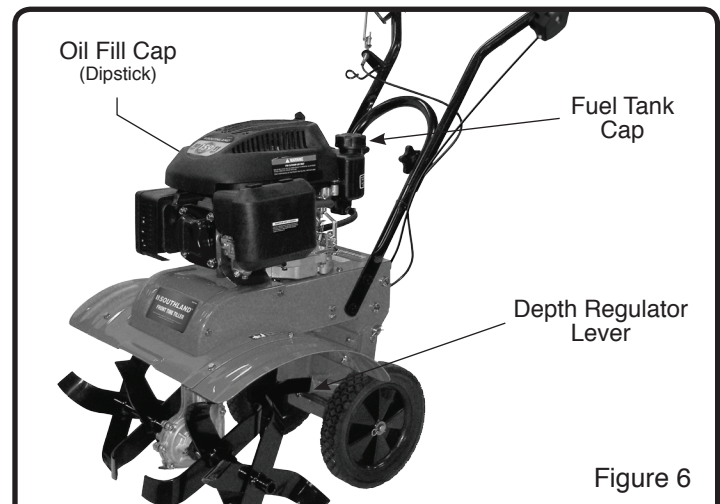

Figure 6
1. Place the tiller on a level surface and make sure the drag bar is set so the main frame of the tiller is level. (See Figure 6)
2. Remove the oil fill cap/dipstick and wipe clean with cloth. (See Figure 6)